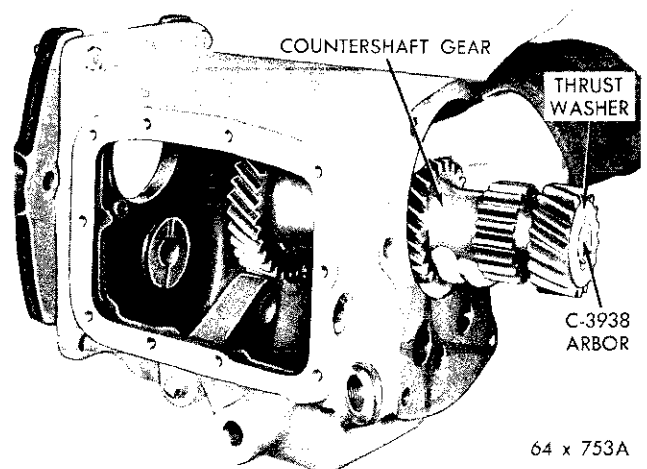

Fig. 44—Removing or Installing Countershaft Gear and Arbor
(1) Using countershaft arbor C-3938, and a plastic hammer, drive the countershaft out of the case, allowing the countershaft gear to be lowered to the bottom of the case. (This will permit the removal of the main drive pinion.)
(2) Remove the main drive pinion bearing retainer attaching bolts, then slide the retainer and gasket from the main drive pinion shaft. Remove the pinion oil seal.
(3) Using a pair of snap ring pliers, remove the main drive pinion bearing outer snap ring, using a plastic hammer, drive the main drive pinion into the case and remove.
(4) Using snap ring pliers, remove the main drive pinion bearing inner snap ring. Using an arbor press, remove the bearing from the main drive pinion.
(5) Remove the snap ring and 16 bearing rollers from the cavity in the drive pinion.
(6) Remove the countershaft gear (cluster) from the bottom of the case, (Fig. 44).
(7) Remove the arbor and the 76 needle type bearings, thrust washers and spacer, from the center of the countershaft gear.
(4) Install the countershaft gear assembly into the case, (Fig. 44). Allow the gear assembly to rest on the bottom of the case. (Be sure the thrustwashers stay in position.)